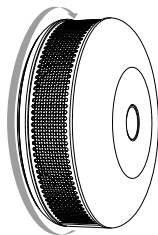

Fig. 7
- 10) Turn the device clockwise to close it (Fig. 7).